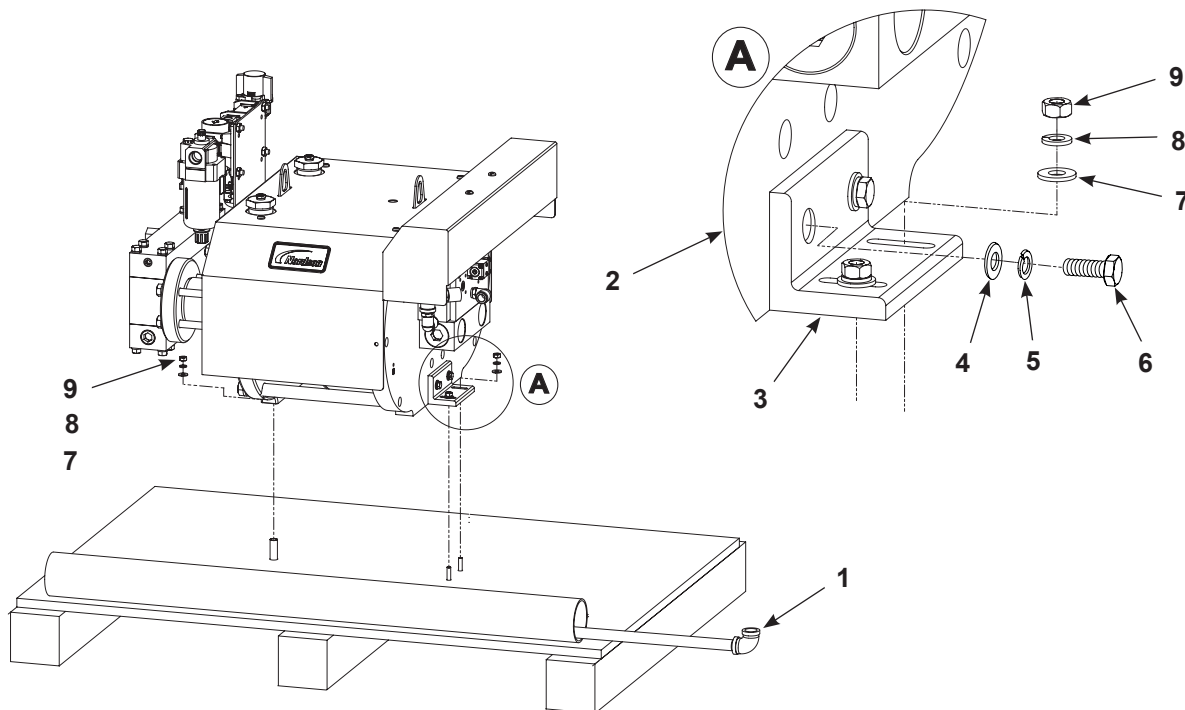

Figure 3-1 Removing the Pump from the Shipping Pallet
1. See Figure 3-1. Remove the siphon rod (1) from the tube on the pallet.
2. Remove the nuts (9), lock washers (8), and washers (7) securing the pump (2) to the pallet.
3. Remove the shipping bracket screws (6), lock washers (5), and washers (4) securing the shipping bracket (3) to the pump (2).